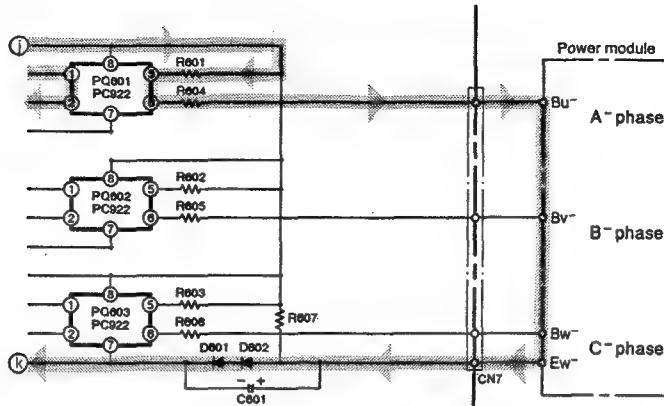

Fig. 7-4
Fig. 7-4 shows the lower arm drive circuit.
- When pin ⑬ of the micro computer goes "Lo" → "Hi", a photocoupler between PQ601 pins ① and ② turns on and current flows to terminal ⑪ → R601 → PQ601 → R604 → power module's Bu terminals → Ew terminals → D602 → D601 → terminal ⑯ and drives the lower arm transistors. (Fig. 7-4)
- The signals which turn on or off according to the position detection signals are output from pins ⑬ ⑭ ⑮ of the micro computer in the same way as in the upper arm drive circuit and are input to pins ① of photocouplers PQ601 and PQ602 via driver IC1.